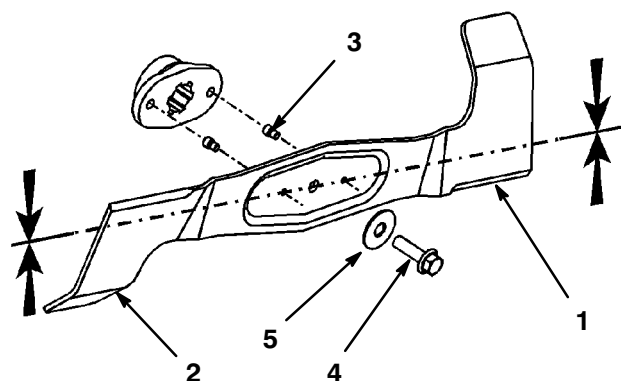

Figure 37
2. Inspect the cutting edges (Fig. 37). If the edges are not sharp or have nicks, remove the blades and sharpen them; refer to Sharpening the Blade(s), page 36.
3. Inspect the blades, especially the bent edges (Fig. 37). If you notice any wear or damage in this area, immediately install a new blade.
4. If the shear pins are broken, replace them immediately (Fig. 37).
3. Remove the bolt, washer and blade (Fig. 37). A block of wood may be wedged between the blade and the mower to lock the blade when you are removing the bolt.
1. Install the blade, washer, and blade bolt (Fig. 37).